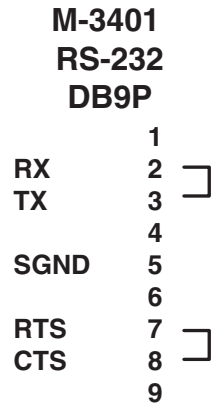

Figure 5-2 RS-232 Loopback Plug
- An RS-232 Loopback Plug (Figure 5-2) is connected to the COM1 port.
- An RS-232 Loopback Plug (See Figure 5-2, COM1/COM2 Loopback Plug) is connected to the COM2 port.